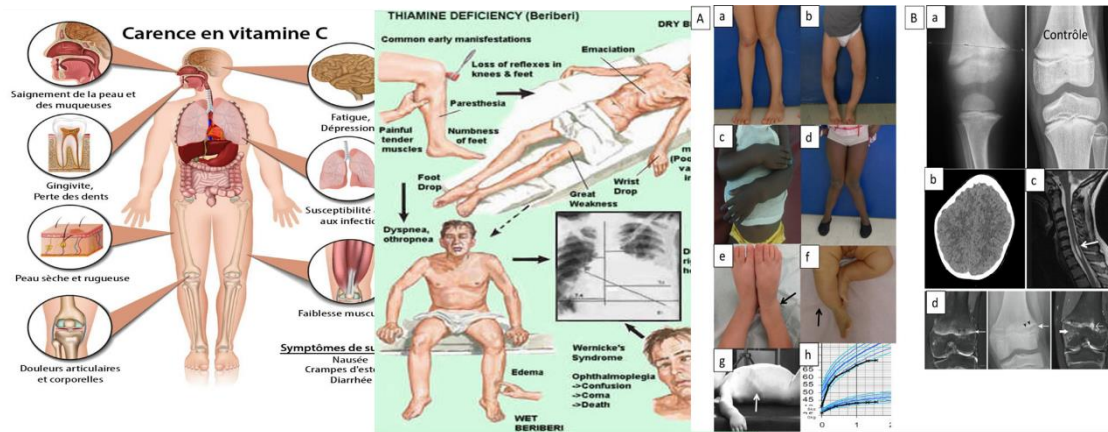

Figure 16 : The effects of insufficiency of vitamins in the diet.
- Inadequate intake or a lack of vitamins can respectively cause hypovitaminosis or avitaminosis, which are the underlying causes of various diseases such as scurvy, beriberi, rickets, etc (figure 16).